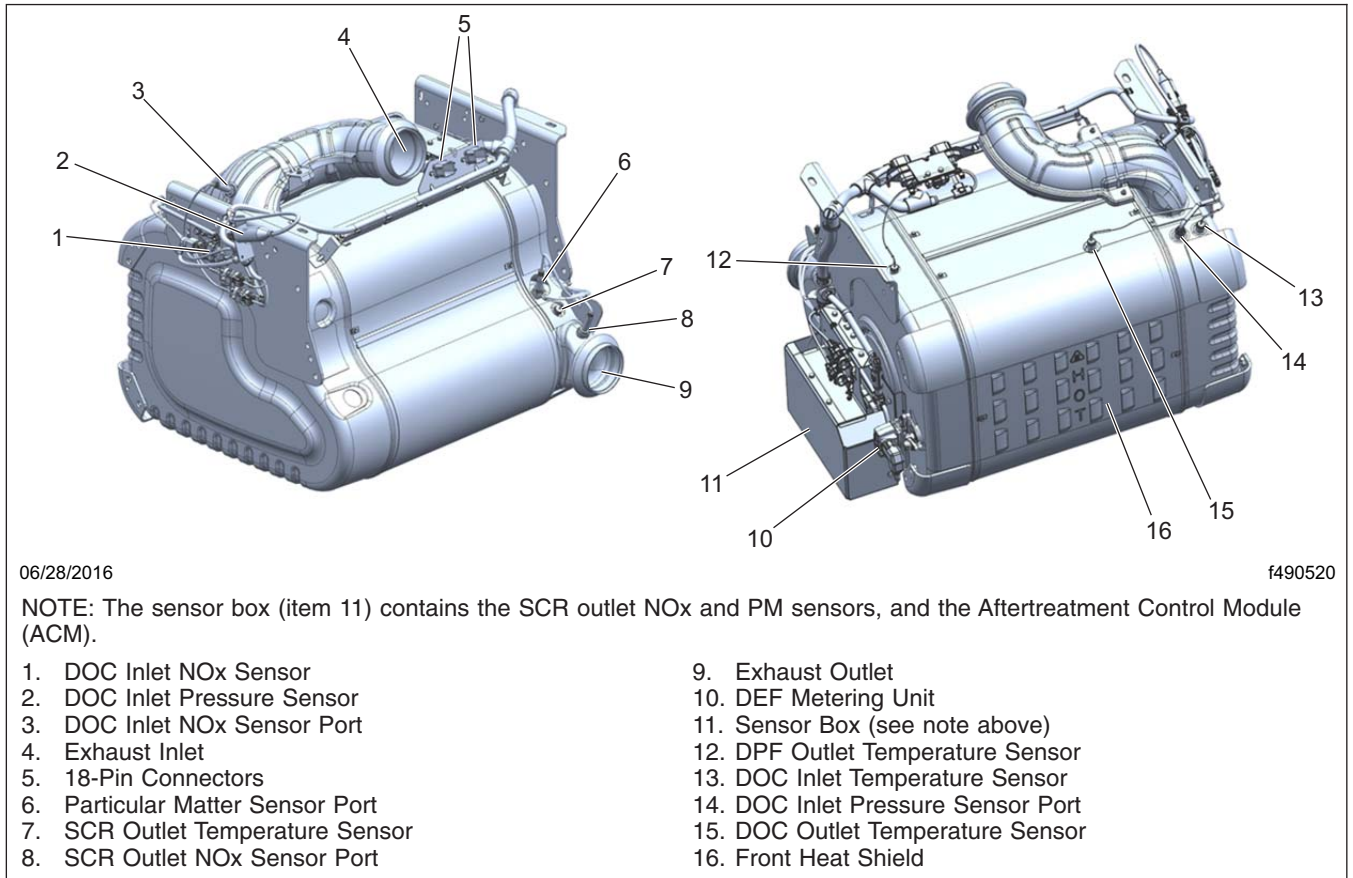
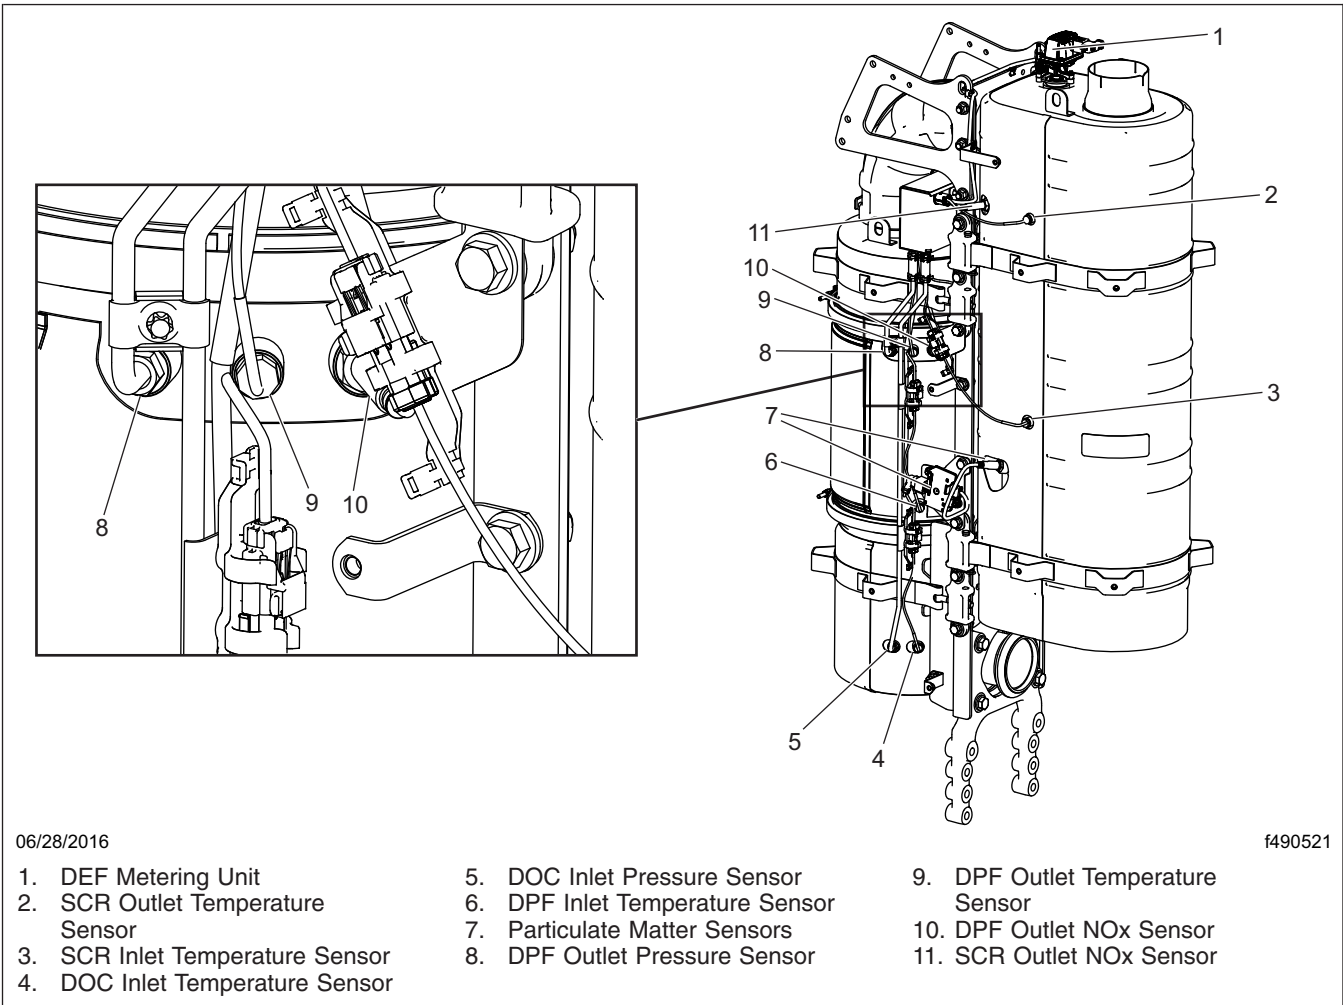

Fig. 1, One-Box ATS Sensor Locations
Fig. 2, 2V2 Two-Box ATS Sensor Locations
6. Check all sensors attached to the ATS for leaks or damaged wires. No leaks are allowed. See Fig. 1, Fig. 2, or Fig. 3 for Detroit Diesel ATS sensor locations.